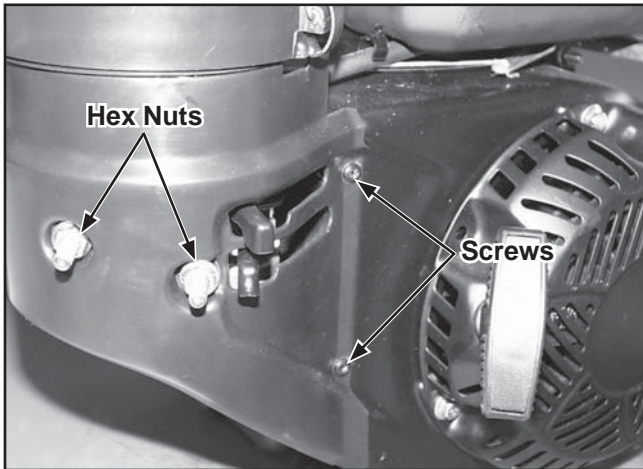

Figure 9-7. Carburetor Shroud Removal.
1. Remove the hex flange nuts and screws securing the carburetor shroud to the engine. See Figure 9-7.